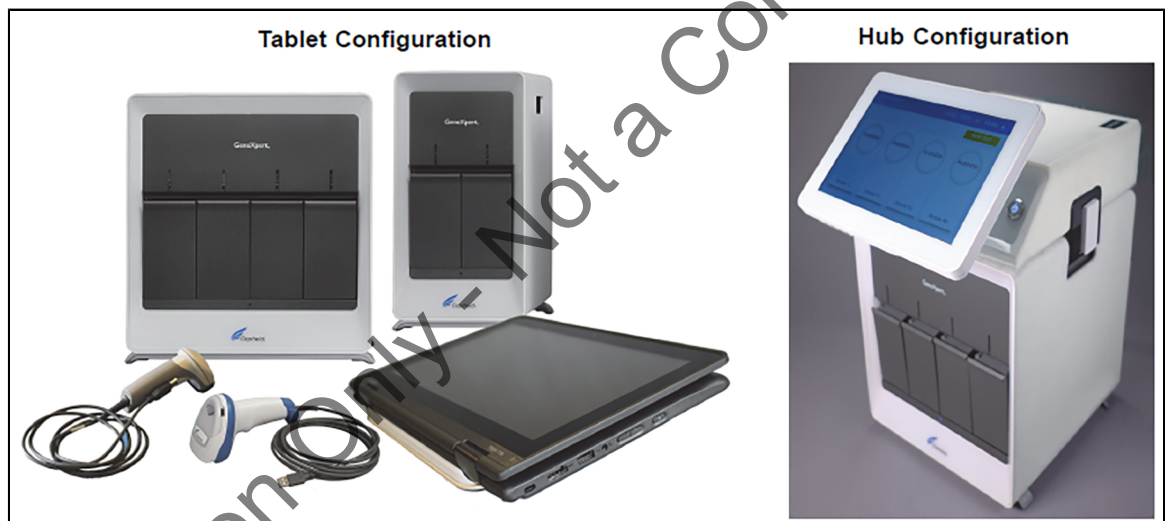

Figure 1. Tablet and Hub System Configurations
2. Determine which system configuration you have (see Figure 1).